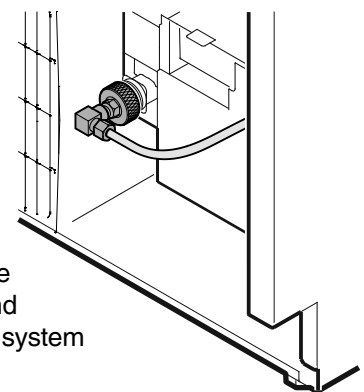

Figure 18
6. Connect the water line to the adapter in the respective configuration, depending on the type of water line used. Figure 18 shows the configuration with a copper line as an example.
8. Screw the adapter onto the solenoid valve (Figure 18).